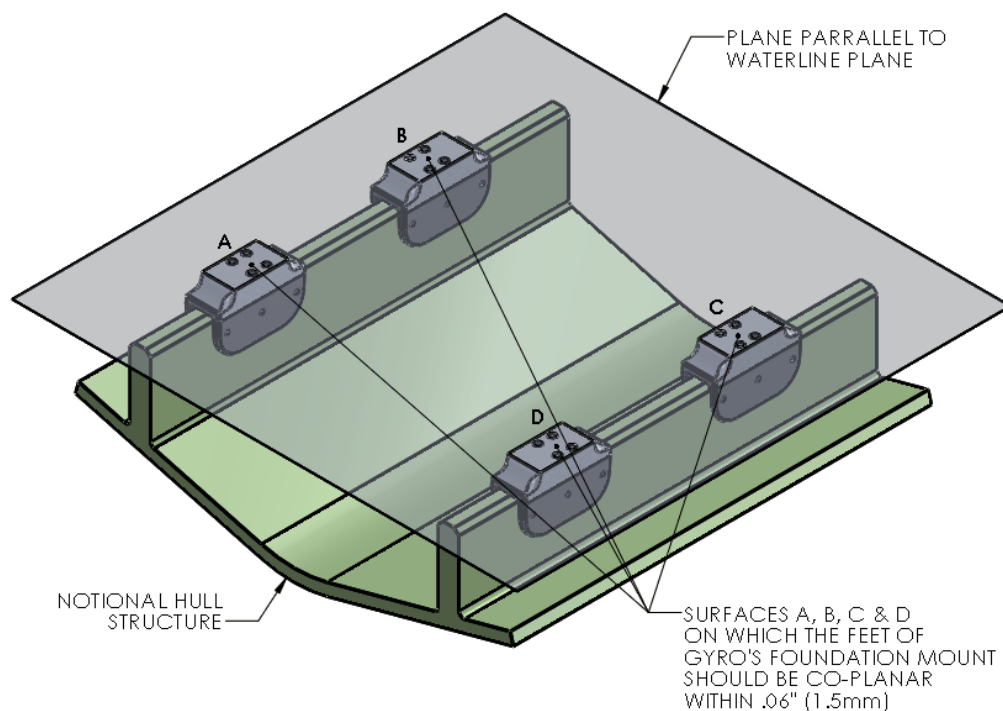

FIGURE 10 – COPLANAR PROPERTIES OF FOUNDATION
- 1) **The four areas where the feet of the Seakeeper will rest should be coplanar to within .06" (1.5mm). See Figure 10.**
WITHIN .06" (1.5mm). SEE FIGURE 10